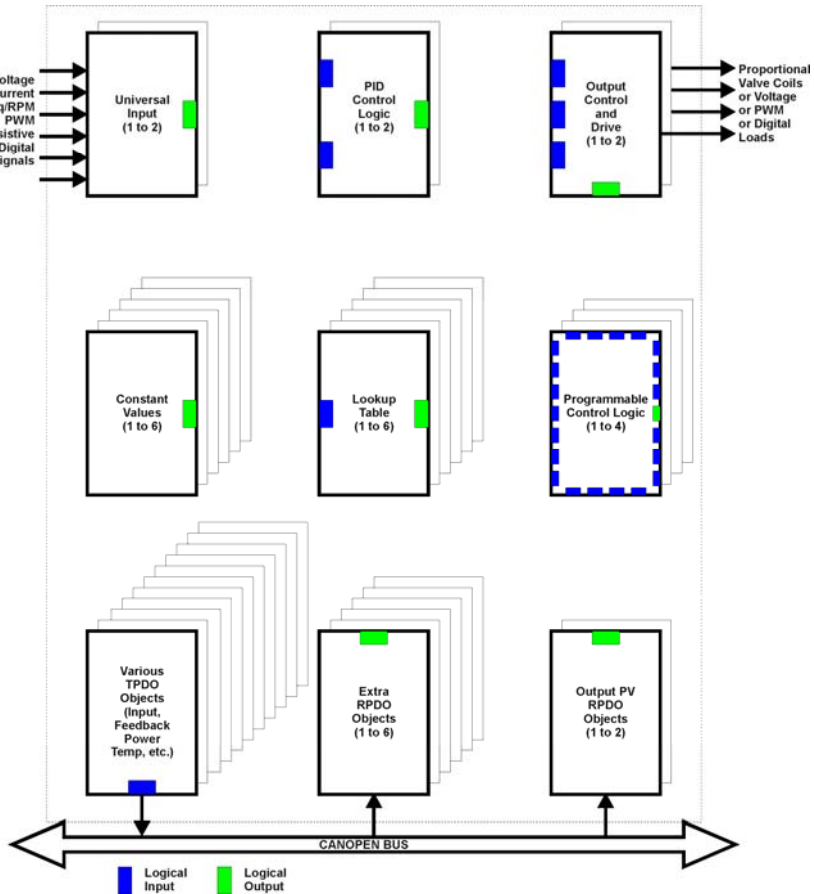

Figure 1B – Logical Functional Block Diagram
**Description:** The 2 Universal Inputs, Dual Output Valve Controller is designed for extremely versatile control of the two proportional outputs to directly drive coils or other loads. Its flexible circuit design gives the user a wide range of configurable input or output types. The sophisticated control algorithms allow the user to program the controller for a wide range of applications without the need for custom software. An EDS file is provided to interface to standard CANopen® tools. The two outputs can be setup to drive: proportional current (up to 3A each); hotshot digital current; proportional voltage (up to supply); proportional PWM; or straight on/off digital loads. Both outputs are high-side driven (sourcing) outputs. The controller also has two fully programmable universal inputs that can be setup to read: voltage; current; resistive; frequency; or digital input signals. It also has a single +5Vref that can source up to 30mA to provide a reference for a potentiometer or low-power transducer. The 2i2o is a highly programmable controller, allowing the user to configure it for their application. Its sophisticated control algorithms allow for open or closed loop drive of the proportional outputs. It can be operated as either a self-contained control system, driving the outputs directly from the on-board inputs, and/or it can be integrated into a CANopen® network of controllers. All I/O and logical function blocks on the unit are inherently independent from one another, but can be programmed to interact in a large number of ways. Refer to Figure 1B.